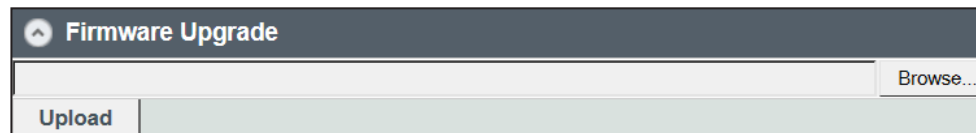

Figure 32. The Firmware Upgrade menu.
- STEP 2.** Log in to the control as “admin.” (See the “Accessing the Overcurrent Control with a Web Browser” section on page 12.) Click on the **Choose File** button. Navigate to the file on the desktop and select it, then click on the **Open** button. The firmware file name will appear in the “Upload” field. See Figure 32.